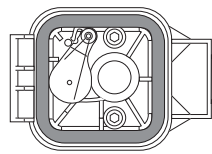

Fig. 29
6. Replace the filter (Fig. 29).